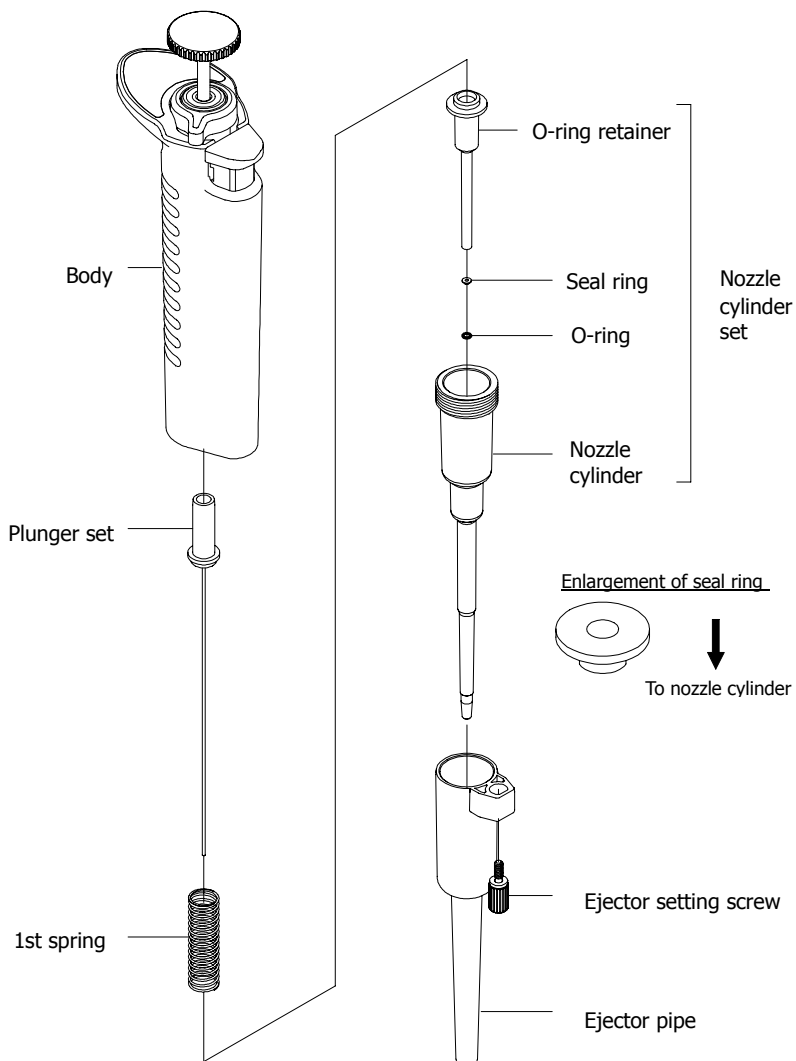
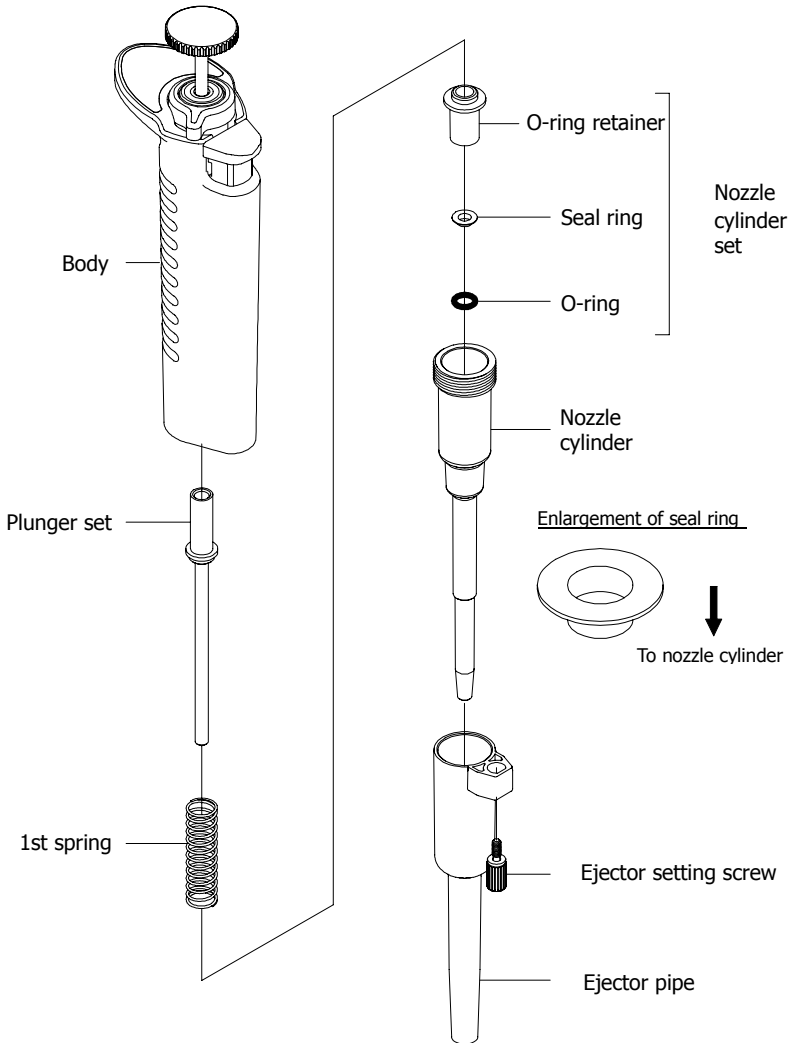

Fig. G1
Fig. G2
- 2ul-1000ul : Fig.G1, G2, G3
- 2, 10, 20ul : Fig. G1, 100, 200ul : Fig G2, 1000ul : Fig G3
- 2, 10, 20ul : Fig G1, 100,200ul : Fig. G2 1000ul: Fig. G3